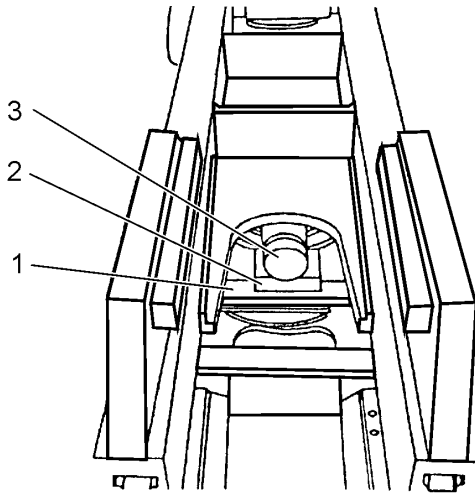
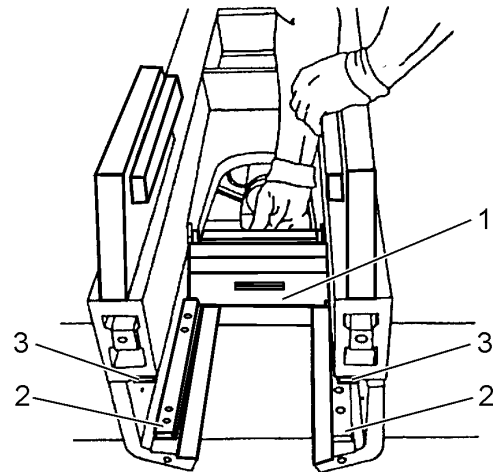

Fig. 14.41. Support Brace Installation
Fig. 14.42. Ram Base Plate Installation
9. Install straight support brace (1, Fig. 14.41) with wooden block (2) under head of ram rod. Install ram base plate (1, Fig. 14.42) in track frame against upper (2) and lower (3) guides.